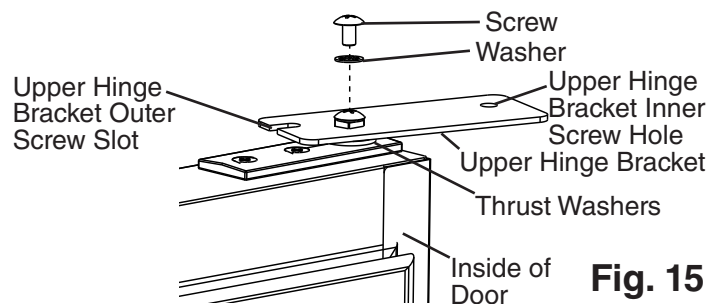

Fig. 15
- 11) Make sure the thrust washers are in place on the spring cartridge, then flip the upper hinge bracket over from its original position and install onto the spring cartridge in the door open position. See Fig. 15. The upper hinge bracket should be positioned as shown.